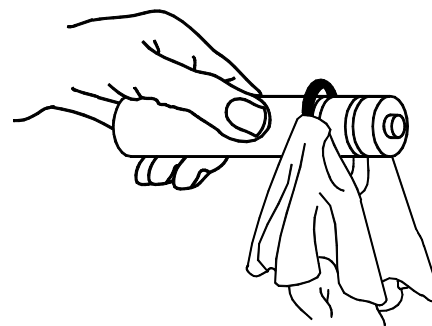

Fig. 9
- Remove the o-rings from the spigot plunger by grasping the part with one hand and with a dry cloth in the other hand, squeeze the o-ring upward. When a loop is formed, grasp the o-ring with the other hand and roll it out of its groove and off the spigot plunger (Fig. 9).